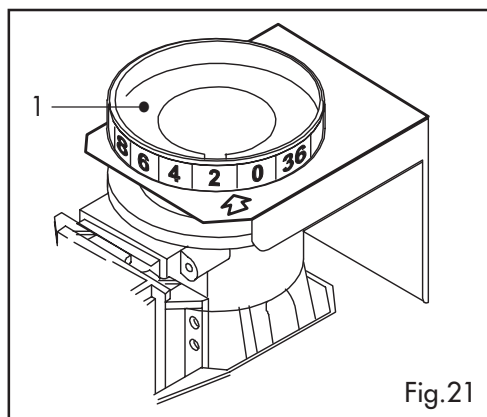

Fig.21
- Turn the adjusting ring ref. 1 (Fig. 21) to a lower number for a finer grind, a higher number for a coarser grind.